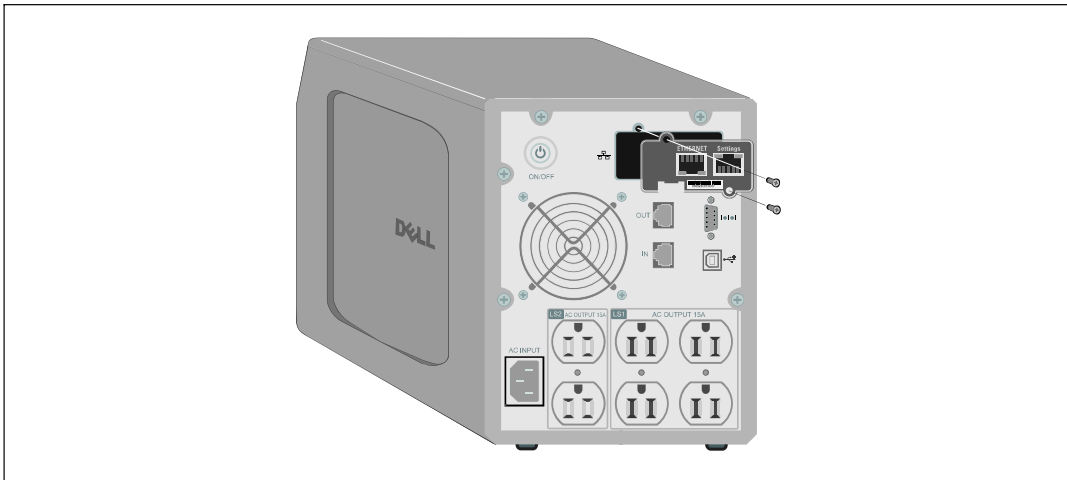

Figure 4. Installing the Card
- 4 Slide the card into the open slot and secure with the screws removed in Step 1 (see Figure 4).